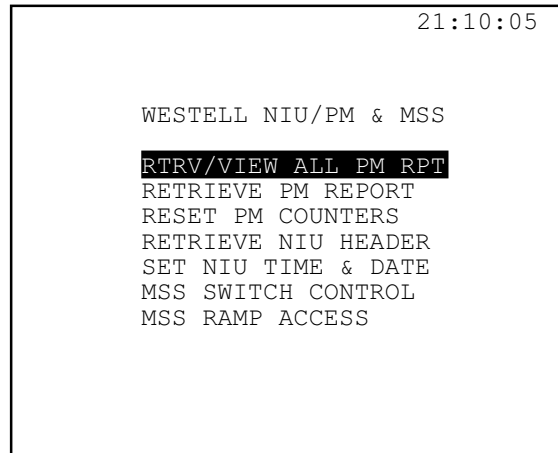

Figure 35 Westell NIU/PM & MSS Menu
2. Select MAIN MENU > LPBK & SPAN CONTROL MENU > WESTELL NIU/PM & MSS and refer to Figure 35.